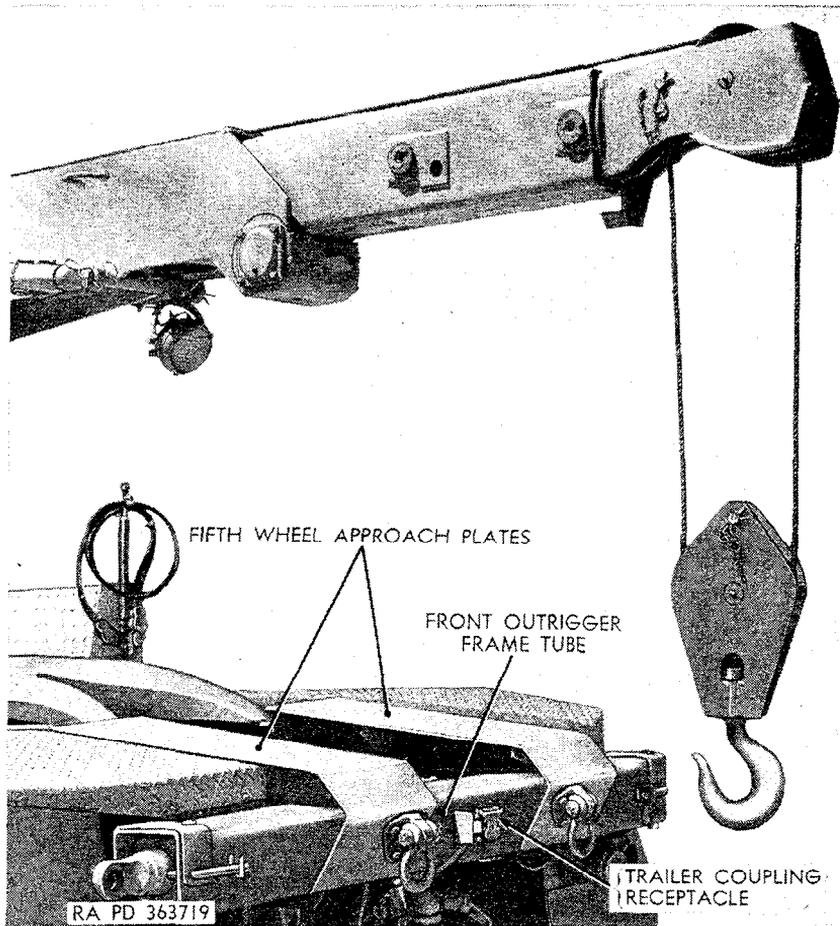

Figure 318. Front view of right front corner of crane body M246.
- (6) Remove trailer coupling receptacle (fig. 318) from bracket attached to front outrigger frame tube (par. 161).
- (10) Remove six cap screws and lockwashers, located under fifth wheel approach plates (fig. 318), three on each side, securing front of crane body to truck-frame side rails.
- (11) Attach a chain sling and overhead hoisting equipment to crane body, and remove body from vehicle.
- (1) Using a chain sling and overhead hoisting equipment, lift crane body into position on truck-frame side rails, and aline mounting holes.
- (2) Install six cap screws and lockwashers under fifth wheel approach plates (fig. 318) in holes in crane-body side rails and truck-frame side rails. Tighten cap screws.
- (6) Install trailer coupling receptacle (fig. 318) at bracket attached to front outrigger frame tube (par. 161).
a. *Description.* The fifth wheel assembly, which is mounted on the rear of the chassis of the tractor truck M52 and on the front of the crane body of the tractor wrecker truck M246, consists of the fifth wheel (figs. 86 and 319), approach plates (figs. 318 and 320), and cen-